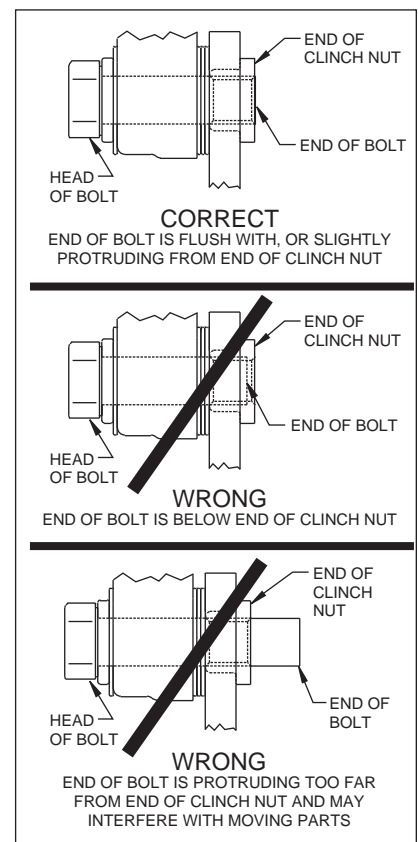

Figure 5. Clinch Nut Engagement Diagram
- Install the dust cap (18) onto the hub (7). Friction created by the o-ring (17) on the dust cap (18) keeps it from unscrewing. The O.D. of the existing spindle washer may be larger than the I.D. of the dust cap (18) which may allow the washer to contact the dust cap (18). Use the spindle washer (15) supplied with the kit instead of the stock washer.
- **NOTE:** Please reference the caution statement at the beginning of the assembly instructions. Mount the caliper (19) onto the caliper bracket (1) using two bolts (21) and two washers (20). Finger tighten. View the rotor (11) through the top of the caliper (19). The rotor (11) should be aligned in the center of the caliper (19). If not, loosen the two bolts (21) and adjust the caliper (19) by using 0.035 inch thick shim washers (22). The shim washers (22) should be placed between the caliper (19) and the caliper mounting bracket (1). Finger tighten and recheck alignment. Add as many shim washers (22) as necessary to achieve the correct alignment. **NOTE:** The end of the bolt must be flush with or slightly protruding from the head of the clinch nut. See Figure 5. Place spare shims (22) between washer and caliper mounting ear to achieve the proper mounting fastener configuration. Always use the same amount of shims on both the top and bottom caliper mounting bolts (21). Loosen the two bolts (21) and apply red *Loctite*® 271 to the bolt threads (21) and torque to 40 ft-lb. Caliper mount bolts may be safety wired for additional security.
- Install the disc brake pads (23) into the caliper (19). Secure the disc brake pads to the caliper utilizing cotter pin (24).